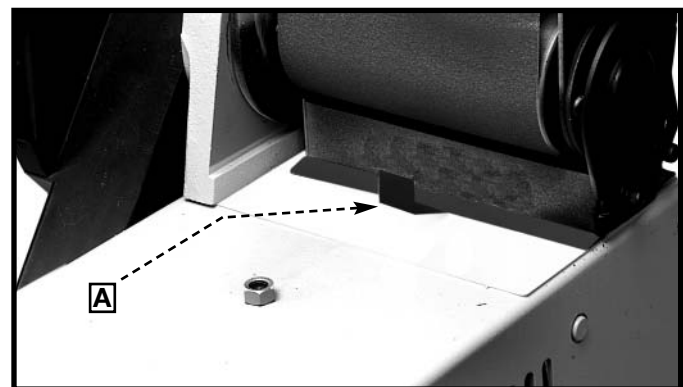

Fig. 33
This sander is equipped with a manually operated dust shield (A) Fig. 33 for use with a dust collection system. You must adjust the shield to suit your sanding operation.
1. If you are sanding with the disc, push in on the dust shield (A) Fig. 33.